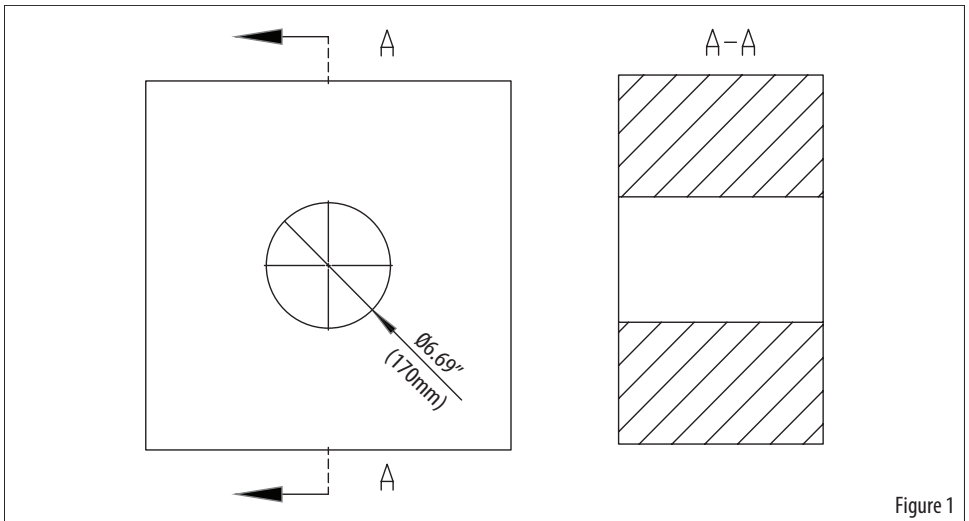

Figure 1
1. Drill a 6.69 inch (170 mm) round hole in the wall. The hole size is shown (Figure 1).